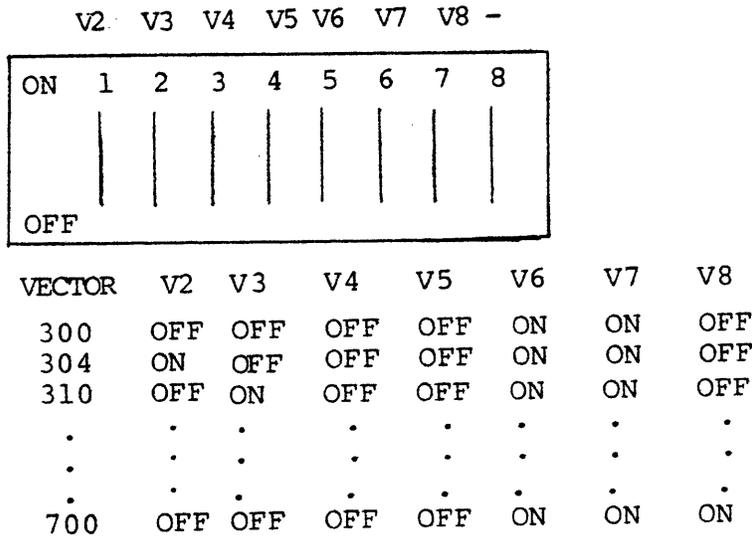

Figure 2-7 DM11-BA Vector Selection
3. Vector selection is accomplished by an eight-position switch located at position E51 on the M8640 module. When the switch is ON (closed), a binary 0 is decoded; when OFF (open), a binary 1 is decoded. Note that the switch position labeled "8" (Figure 2-7) is not used, and that switch "1" corresponds to vector bit 3, "2" to bit 4, etc.